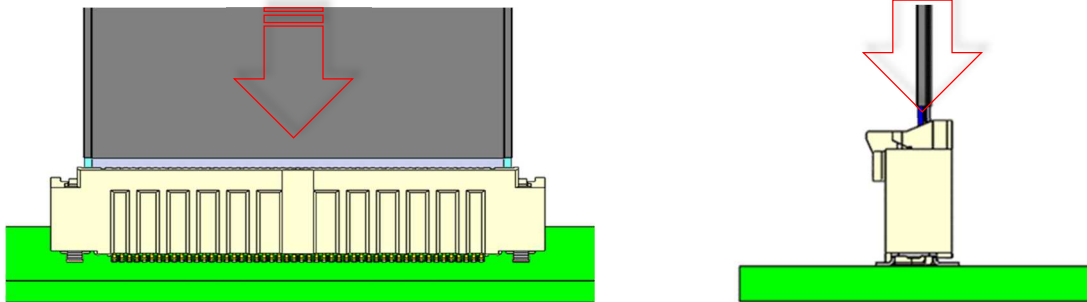

Fig.2-4 FFC/FPC insertion method 4
③ Insert the FFC / FPC completely keeping it perpendicular to the connector as shown in Figure 2-4.